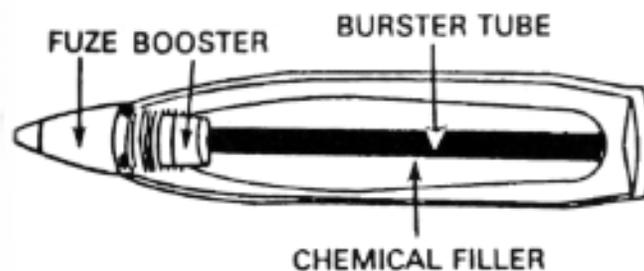

Figure 1-11. Bursting tube explosive train
(2) **Bursting tube explosive train.** The second explosive train in a chemical or white phosphorus round is a bursting tube explosive train (Figure 1-11). It consists of a fuze, a booster, and a small burster tube filled with tetryl or tetrytol. This tube extends through the longitudinal axis of the projectile. The shell contains gas or white phosphorus filler. When the fuze functions, the booster so amplifies the shock wave that the burster tube breaks open the projectile, allowing the chemicals to escape from the interior of the projectile and spread throughout the target area. These rounds are available for the 105-mm and 155-mm howitzers. The 203-mm howitzer does not have a white phosphorus round but has a gas-type round--the M426--that can be filled with either toxic nerve gas GB (nonpersistent) or VX (persistent).